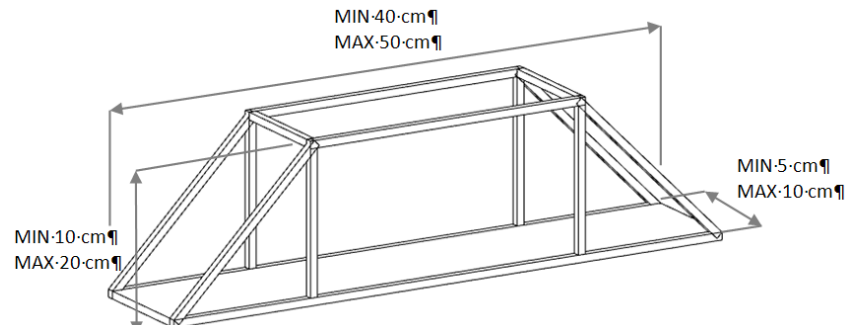

Figure 1 – “FOR EXAMPLE ONLY”
2. Teams are responsible for constructing the superstructure for their bridge. The foundation for the bridge shall be provided at the testing site. See Figure 1- Figure 4
4. The maximum allowable superstructure height is 20 cm. See Figure 1
5. The minimum allowable superstructure height is 10 cm. See Figure 1
7. The minimum width of the roadway shall not be less than 5 cm. See Figure 1
8. The maximum width of the roadway shall not exceed 10 cm. See Figure 1
9. The minimum length of the roadway shall not be less than 40 cm. See Figure 1
10. The maximum length of the roadway shall not exceed 50 cm. See Figure 1